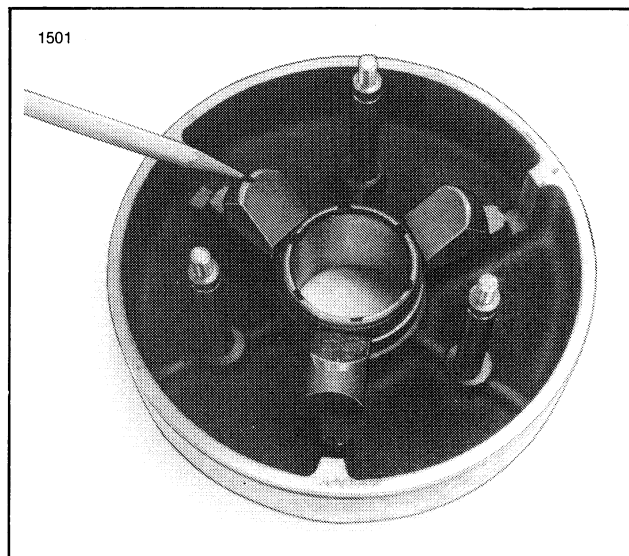

Figure 7-7. Correct Weight Position
3. Position the weights in the floating flange as shown in Figure 7-7. Place the drive cup (10) in proper position on the floating flange. Holding drive cup and floating flange firmly together, slide unit onto crankshaft. Install slide nut lock and nut.